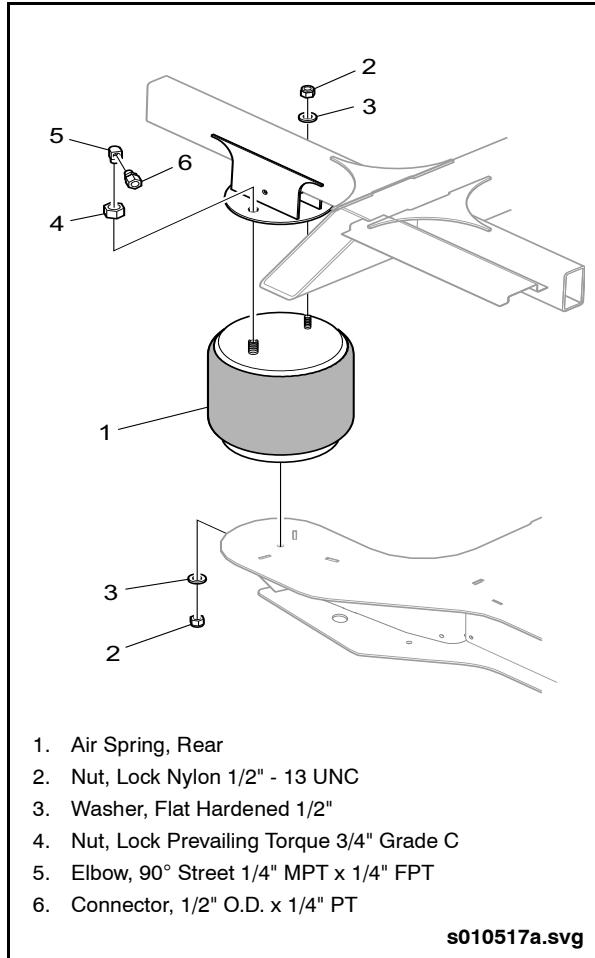

Fig. 2-102: Rear Air Spring Removal & Installation
5. Disconnect air line. Remove lower nut attaching air spring to mounting plate. See "Fig. 2-102: Rear Air Spring Removal & Installation" on page 79.